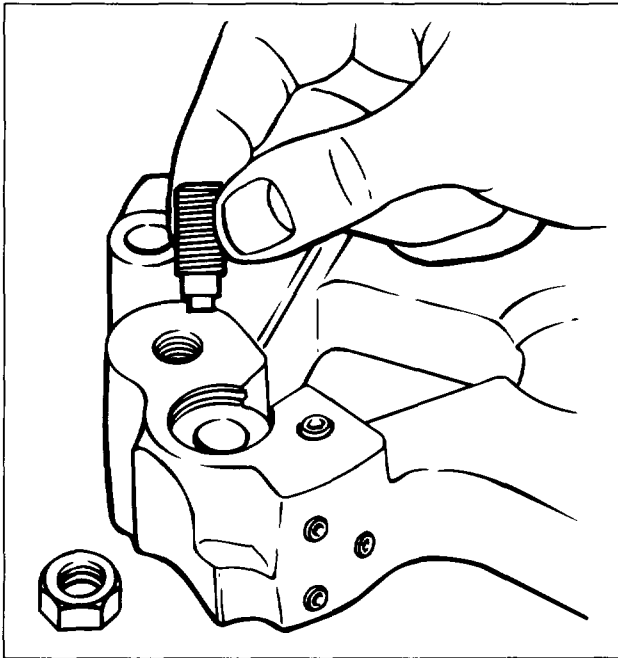

FIG. 8
1. Loosen the slave piston adjusting screw locknut and remove the adjusting screw from the housing (see Fig. 8).